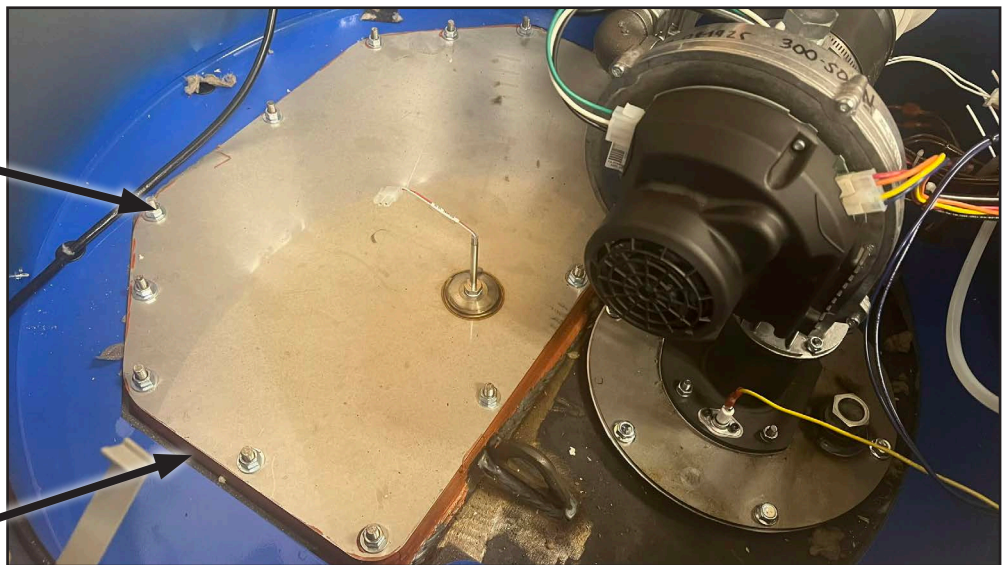

Fig. 57
7. Using a crowbar, carefully pry the cover off of the combustion chamber. Be careful NOT to damage any surrounding parts such as the blower and gas valve (Fig. 57).